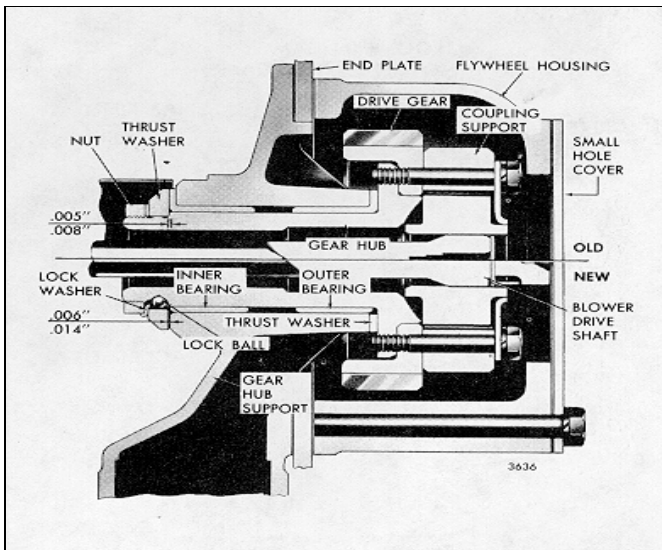

Fig. 2 - Blower Drive Support Assembly
3. Remove the drive gear hub nut (57), lock washer (58), lock ball (55) and thrust washer (56) and withdraw the blower drive gear hub.
4. Remove the thrust washer (Fig. 2) from the blower drive gear hub.